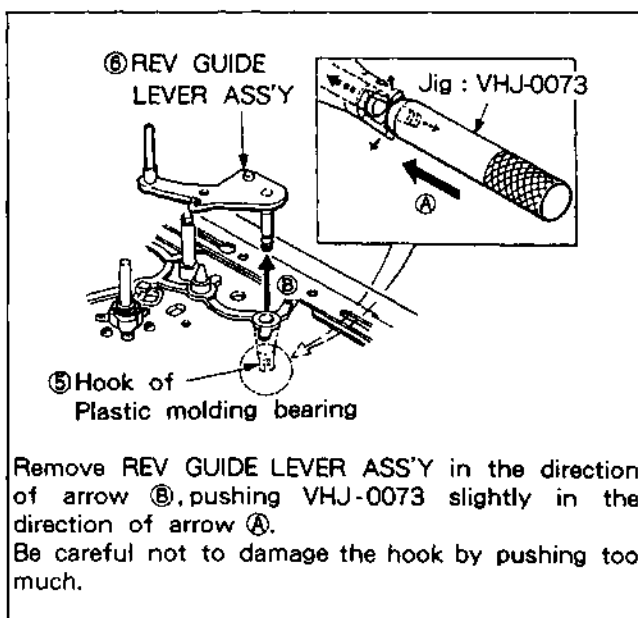

Fig. 2-6-2. Method of Using the Jig VHJ-0073
- 3) Remove the PINCH SPRING COIL ①.
- 4) Remove the special washer ②, then remove the PINCH LEVER ASS'Y ③.
- 5) Remove the REV GUIDE LEVER SPRING COIL ④.
- 6) Remove REV GUIDE LEVER ASS'Y ⑥ from the hook ⑤ of the plastic bearing on the bottom side. Use a jig VHJ-0073 shown in Fig. 2-6-2 to widen the hook of the plastic bearing. By so doing, the above removal of the REV GUIDE LEVER ASS'Y ⑥ can be made more easily. Care should be taken to avoid pushing the jig VHJ-0073 too much. Pushing it too hard may damage the hook in an extreme case.
- 7) Remove the SLIDE BRAKE SPRING COIL ⑦.
- 8) Remove the special washer ⑧, then remove the PINCH CAM LEVER ASS'Y ⑨.
- 9) Remove the ACT PINCH SLIDE ASS'Y ⑩.